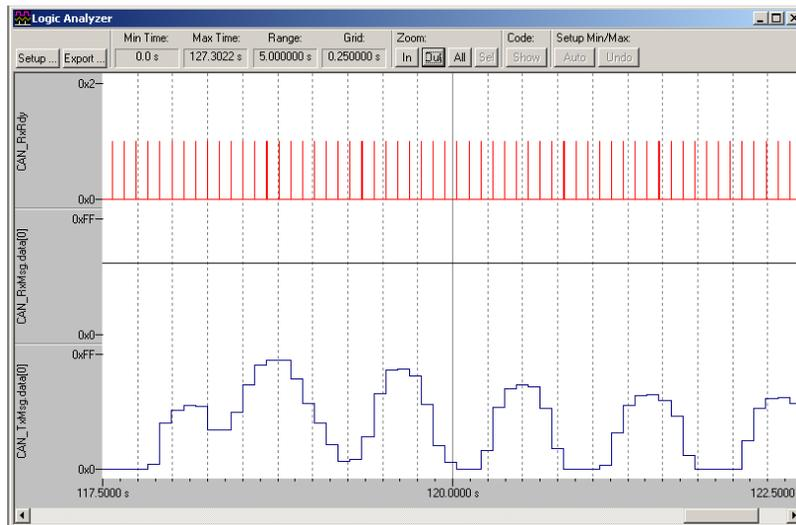

Figure 29
7. Note that as you turn the pot on the board the transmit trace CAN_TxMsg.data[0] varies as shown in Figure 29.
Why it does this: The “x” in the Ovf column indicates there was some data overflow and some records were dropped. The “x” in the Dly column indicates the timestamp is delayed somewhat. This comes from the high amount of data reads performed by the Cortex-M3 processor. The Serial Wire Debug is having trouble recording such high speed traffic. It is difficult in some cases for the single bit port the Serial Wire Viewer uses (called the SWO) to track a ARM CPU at full speed. The information gained, as can be seen in Figure 29, it still very valuable. This can be alleviated by reducing the number of trace features employed in the Trace Configuration window in Figure 21 and increasing the speed of the SWV in Figure 36 in Appendix A.
1. **Neat Feature:** The “78” in Figure 29 is the output of the pot on the evaluation board.